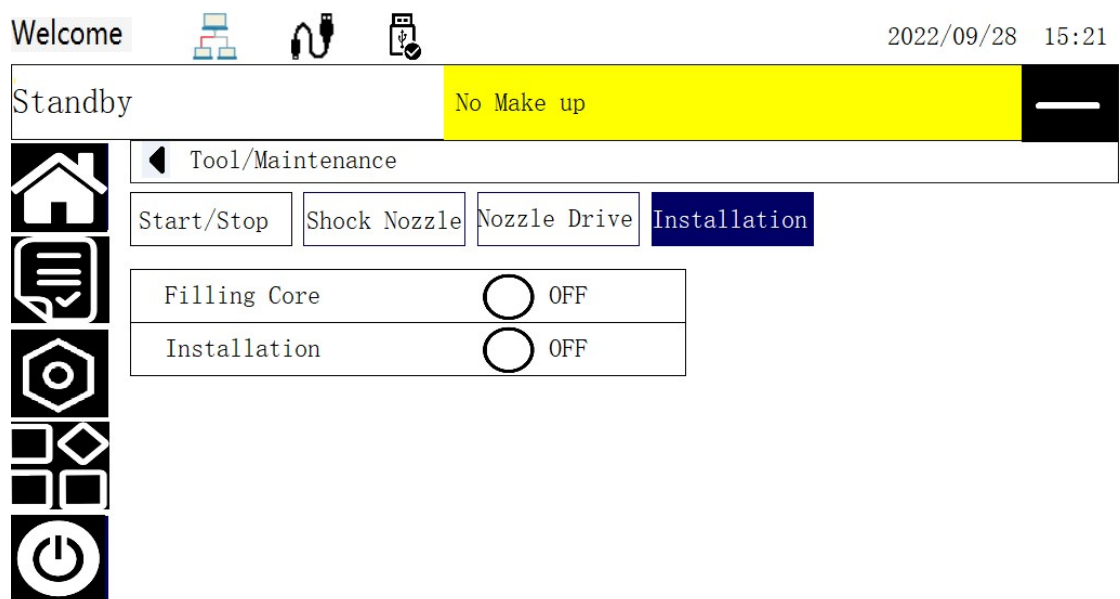

Figure 3-2
3、Perform the “Installation” operation, as shown in Figure 3-2,.